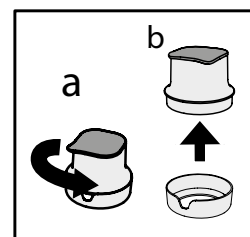

Fig 5
- Remove the funnel from the filter housing rotating it anticlockwise (**Fig 5. a - b**).
Then mount the bottle balcony on the water tank and assembly them on the door as suggested in Fig 15. Once assembled, mount the filter with the carbon cartridge (as described in Fig 5, 6, 7, 8).